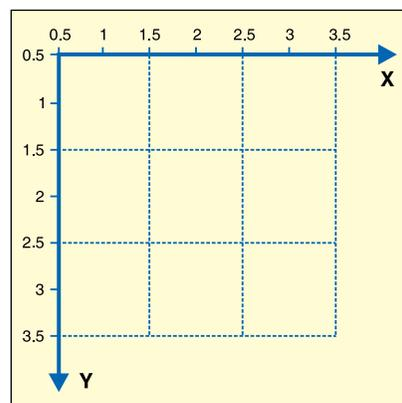

Fig. 3: Spatial coordinates
**Spatial coordinates.** Consider a pixel as a square patch. From this perspective, a location such as (3.3, 2.2) is a spatial coordinate. Here, locations in an image on a plane are described in terms of 'x' and 'y.' When the syntax uses 'x' and 'y,' it refers to the spatial coordinate system. Fig. 3 shows the coordinate convention of the spatial coordinate system. Notice that 'y' increases downward.